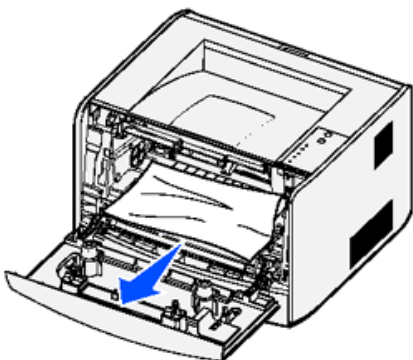

Figure 3: Remove Jams Behind the Toner Cartridge
4. Remove any jams in the area behind the toner cartridge assembly (**Figure 3**).